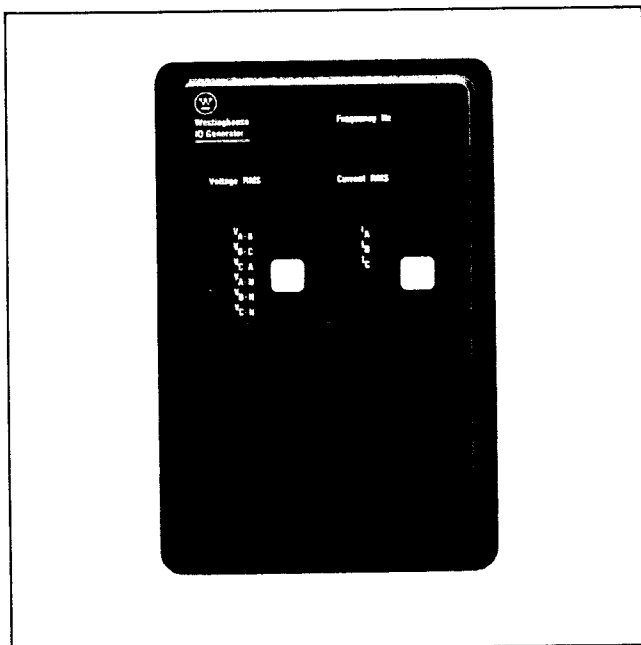

Figure 1.1 — IQ Generator
1.0 General — The IQ Generator is a microprocessor-based, self-contained, door-mounted device designed to both monitor and display electrical parameters. (See Figure 1.1)